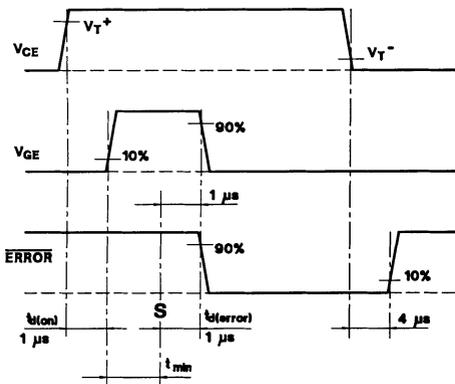

Fig. 7 Function of the short-circuit protection.
In Fig. 7 the  $V_{CE}$  monitoring is activated immediately after turn-on.  $t_{min}$  is the delay time according to equation (2). The value  $t_{min} = 1,75 \mu s$  is set using  $R_{CE} = 24 \text{ k}\Omega$  and  $C_{CE} = 330 \text{ pF}$ . The signal waveforms in Fig. 7 from the instant S of activation of the  $V_{CE}$  monitoring on are also valid in case that the short circuit at the power switch happens some time after turn-on (S = instant of the short circuit = instant of activation of the  $V_{CE}$  monitoring  $V_{CE} > V_{CEref}$ ).